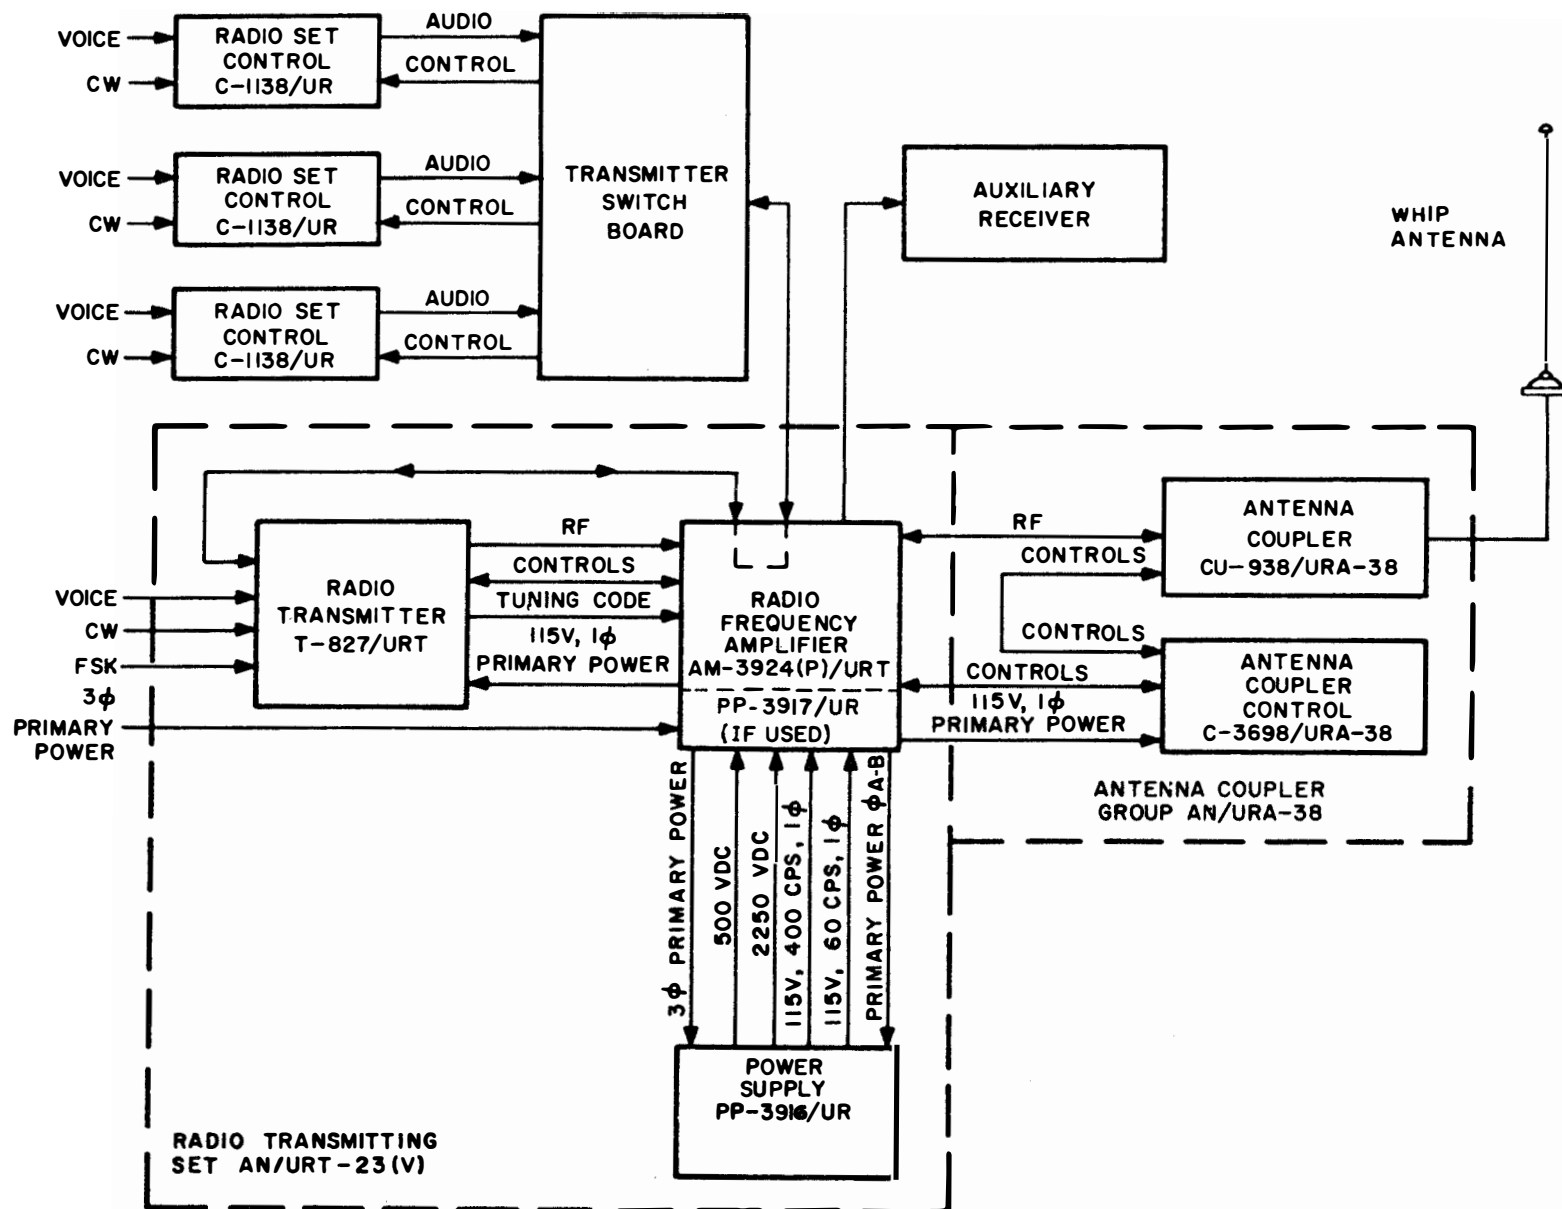

Figure 4-1. Typical Radio Set Block Diagram
4-18. Figure 4-1 illustrates the functional relationship of the AN/URT-23(V) in a typical radio set configuration. The T-827()/URT allows the operator to select a voice LSB, USB, ISB, or Compatible AM, CW, or FSK mode of operation on any one of 56,000 or 280,000 channels (depending on model of T-827()/URT used) in the 2.0 to 29.9999 MHz frequency range. When an operating channel is selected, the T-827()/URT supplies a five wire code to the AM-3924(P)/URT to automatically tune it to the correct operating band. Once the AM-3924(P)/URT is tuned, the antenna coupler must be tuned to match the impedance of the antenna at the selected operating frequency to the 50 ohm transmission line of the AM-3924(P)/URT. When Antenna Coupler Group AN/URA-38 is the antenna coupler system used, the necessary control signals are passed between the AM-3924(P)/URT, T-827()/URT, and AN/URA-38 to automatically tune the AN/URA-38 for the selected operating frequency.